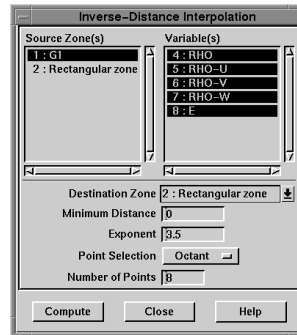

Figure 24-22. The Inverse-Distance Interpolation dialog.
3. From the Data menu, choose Interpolate, then choose Inverse Distance. The Inverse-Distance Interpolation dialog appears, as shown in Figure 24-22.